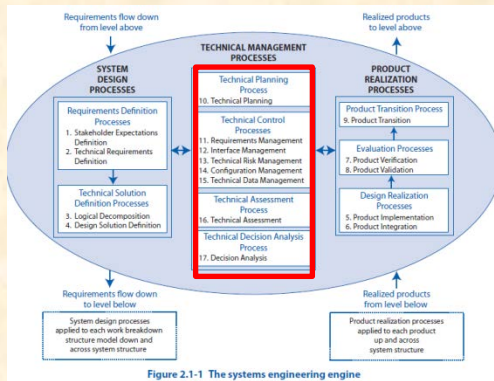

Figure 2.1-1 The systems engineering engine
- Steps 1 through 9 indicated in Figure 2.1-1 represent the *tasks in execution of a project*.
- **System Design Processes:** The four system design processes shown in Figure 2.1-1 are used to define and baseline stakeholder expectations, generate and baseline technical requirements, and convert the technical requirements into a design solution that will satisfy the baseline stakeholder expectations. These processes are applied to each product of the system structure from the top of the structure to the bottom until the lowest products in any system structure branch are defined to the point where they can be built, bought, or reused. All other products in the system structure are realized by integration. Designers not only develop the design solutions to the products intended to perform the operational functions of the system, but also establish requirements for the products and services that enable each operational/mission product in the system structure.